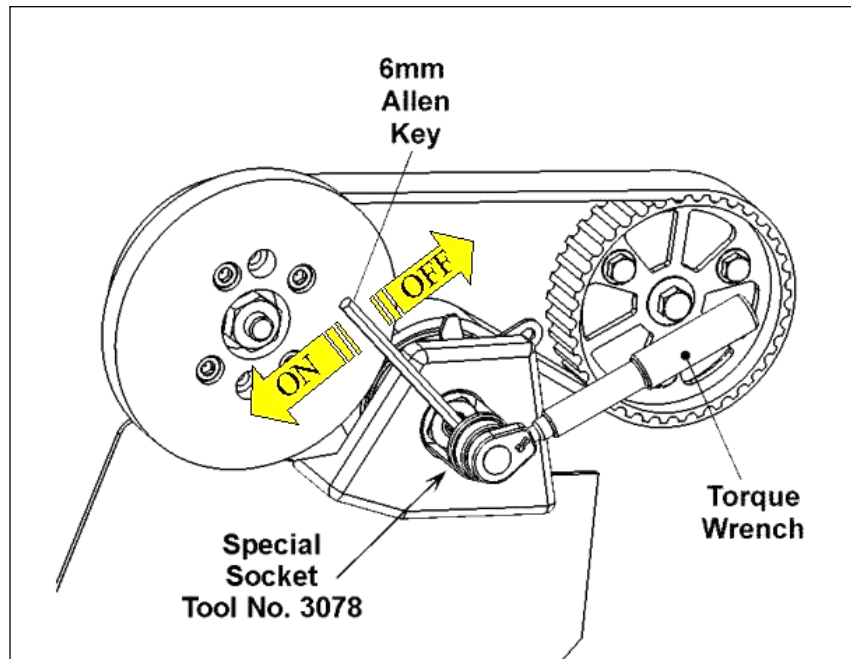
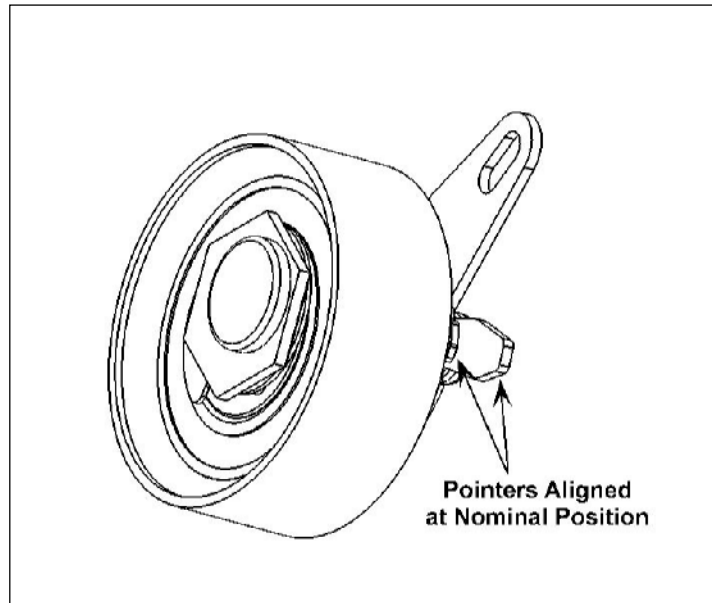

Fig 3: Direction for Removing and Installing the Timing Belt Tensioner
Fig. 9a: TBT Pointer Alignment for proper Layout Installation
5. Loosen Fuel Injection Pump timing belt tensioner installation nut using special socket tool or boxed-end wrench, see Fig. 3.
7. Lightly re-tighten the TBT installation nut, see Fig 3.
15. Install the timing belt in a counterclockwise direction starting at the camshaft, being careful to engage the appropriate teeth on the upper half of the two sprockets, i.e. the camshaft and the fuel injection pump, see Fig. 3 for layout.
16. Engage the Special Socket Tool and the 6mm Hex Key. Loosen the installation nut, and while preventing the installation nut from rotation, rotate the FIP TBT installation shaft COUNTERCLOCKWISE (ON position), see Fig. 3; until the arm pointer aligns with the alignment indicator on the rear plate of the FIP TBT, see Figures 9a,b and 10a,b. This is the setting range position of the FIP TBT. The sighting for the pointers' alignment may only be accomplished from the top of the engine.